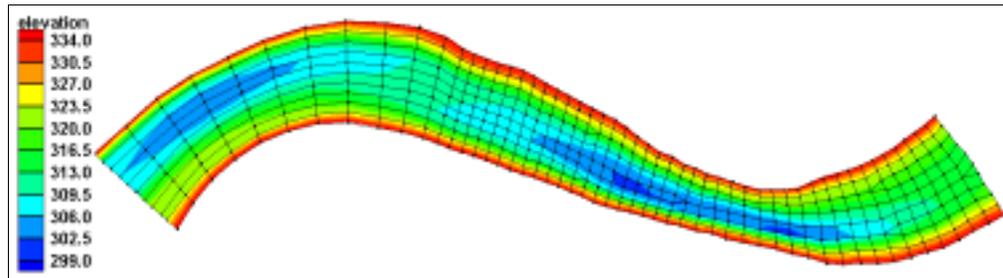

Figure 3-23 Contours of the poway3 mesh.
6. Click *OK* in both dialogs. The resulting contours are shown in Figure 3-23.